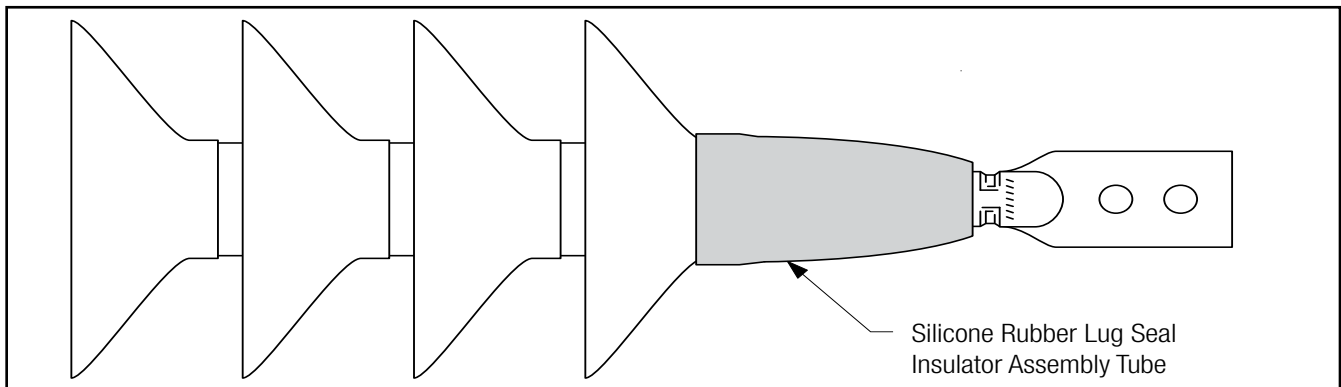

Figure 31
- 8.3 Figure 31 illustrates the appearance following installation of the Cold Shrink Silicone Rubber Lug Seal Insulator Assembly tube.